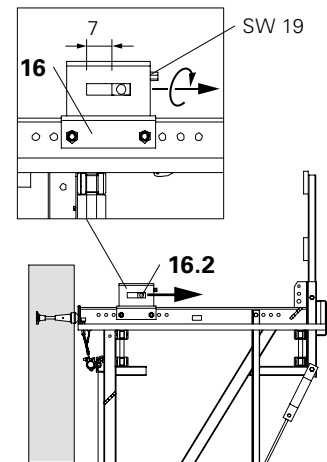
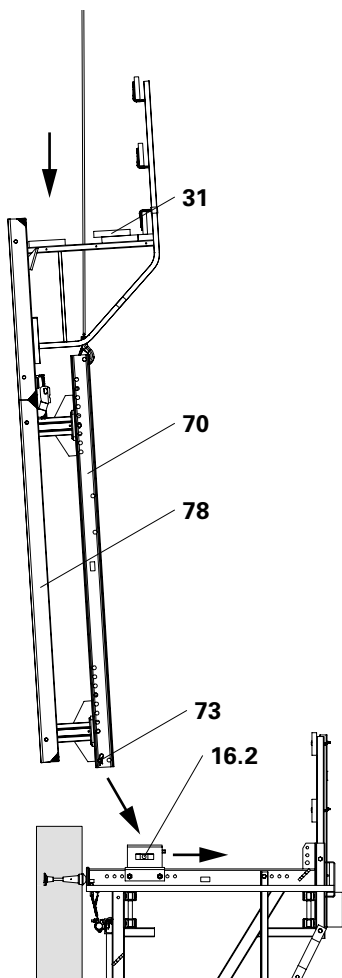

Fig. B2.17a
Fig. B2.17b
1. Completely move back the sliding block (16.2) of the Adjusting Unit CB (16), SW 19. (Fig. B2.17a)
2. Open concreting platform decking (31) above the Strongback. Secure loose decking components.
3. Attach formwork (78) together with concreting platform to the Strongback CB (70), and position on the platform. (Fig. B2.17b)
4. Fix Strongback to the Adjusting Unit CB (16) by means of Bolts $\varnothing$ 25x180 (73) and Cotter Pins 4/1. Standard case: use those holes in the Strongback facing the wall. (Fig. B2.17b)